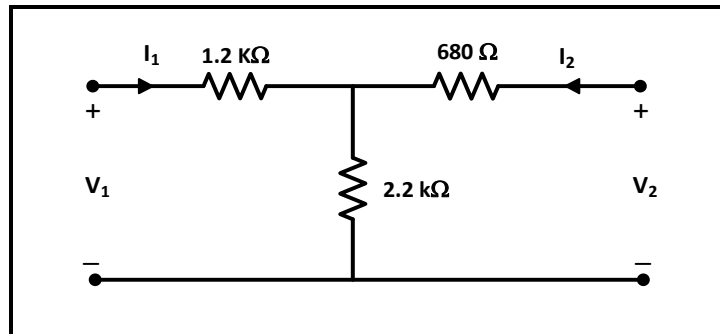
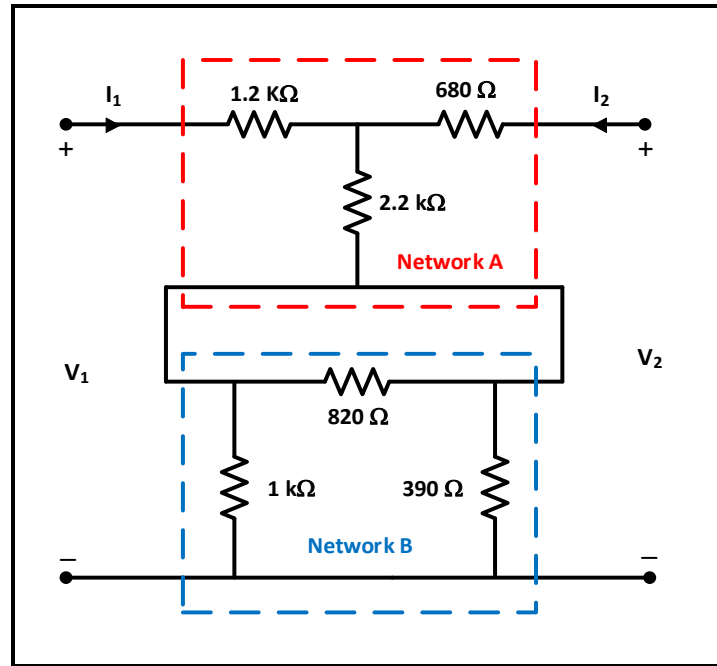

Figure 11.3
Figure 11.5
1. Simulate the circuits in Figures 11.3 to Figure 11.5 and use current and voltage values resulting from simulation to calculate the Z-parameters for each circuit, note that you must apply the same steps in the procedure.
1. Connect the circuit of Figure 11.3.
Question 1: Using data in Table 11.1 calculate Z-parameters for the circuit of figure 11.3.
3. Connect the two circuits in figures 11.3 and 11.4 as series interconnected two port networks as shown in figure 11.5.
- a. Repeat steps 1-(a-b) for the circuit connection in figure 11.5, and record results in Table 11.3.
Question 3: Using data in Table 11.3 calculate Z-parameters for the circuit of figure 11.5, verify that the Z-parameters of the circuit in figure 11.5 is equal to the sum of the Z-parameters of the circuits in figures 11.3 and 11.4.